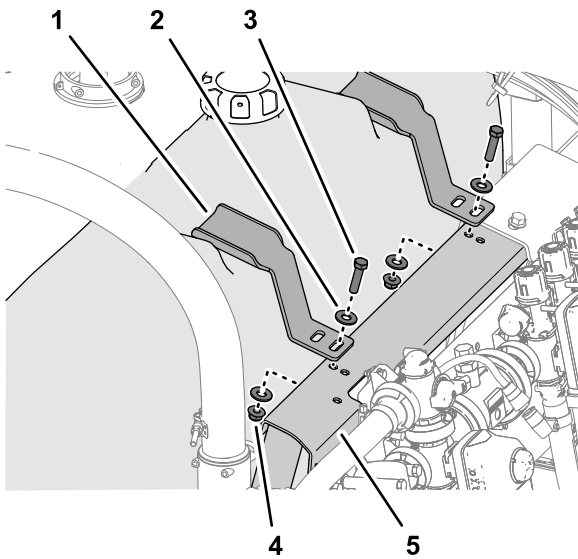

Figure 16
1. Align the hold-down bracket with the reliefs molded into the top of the rinse tank (Figure 16)
2. Align the slot in the hold-down bracket with the hole in the valve mount (Figure 16).
3. Loosely assemble the hold down to the valve mount (Figure 16) with a bolt (3/8 x 1-1/2 inches), 2 washers (3/8 inch), and a flange locknut (3/8 inch) that you removed in Removing the Rinse Tank (page 6).
4. Repeat steps 1 through 3 for the other hold down at the other recess in the rinse tank (Figure 16).